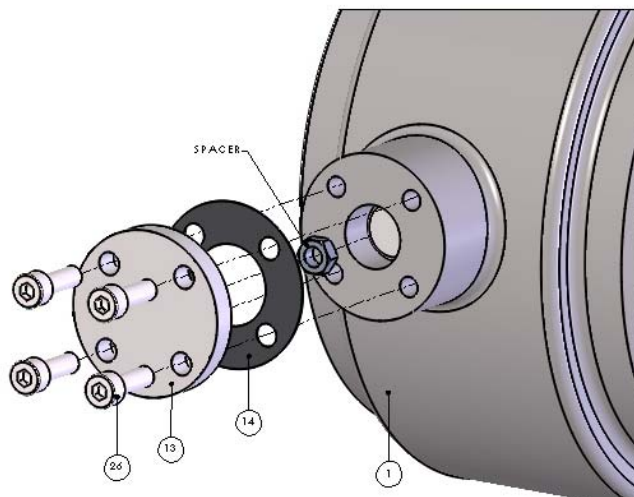

Fig. 6
- e. Prior to fitting the operator a spacer is to be fitted between the end cover (Item 13) and the end of the shaft. This prevents the internal components disc/disc seal being forced downwards and potentially damaging the body seat and disc seal – please consult with Tomoe Valve Ltd for details. (see fig. 6)